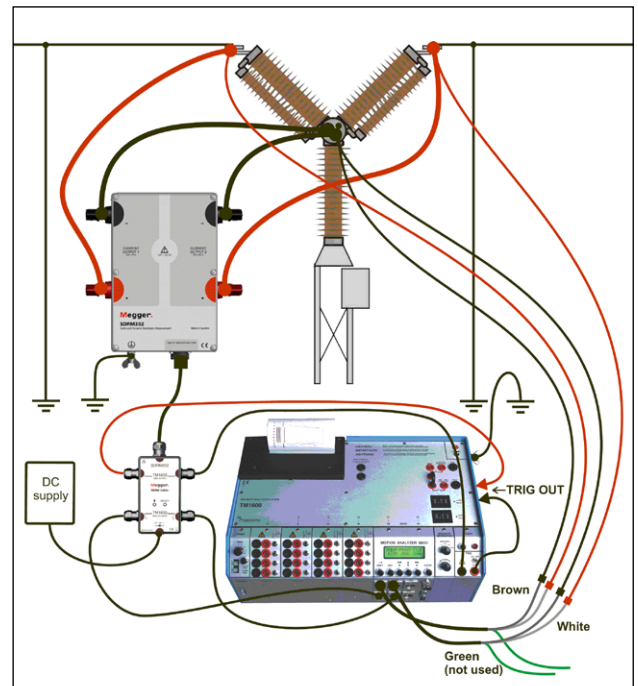

Fig. 6.2.1 Hook up example. Figure shows hook-up with SDRM202. The SDRM201 is hooked-up the same way but with only one channel.
- 1] Hook up the SDRM201/202 to the CB, see example in figure 6.2.1.